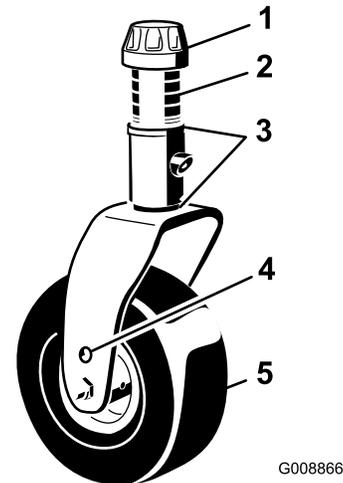
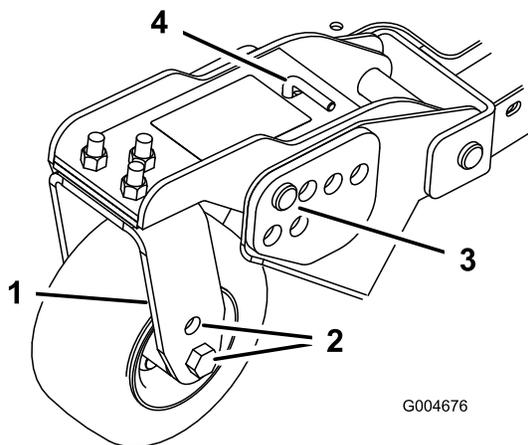
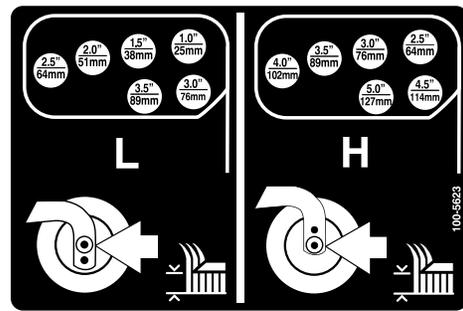

Figure 20
Figure 22
Figure 23
1. Position the caster-wheel axles in the same holes in all of the caster forks (Figure 20 and Figure 22).
2. Remove the tensioning cap from the spindle shaft and slide the spindle out of the caster arm (Figure 20).
- Remove the hairpin cotter and clevis pins from the caster-pivot arms (Figure 22).
- Rotate the tension rod to raise or lower the pivot arm until the holes are aligned with the selected height-of-cut bracket holes in the mower-deck frame (Figure 22 and Figure 23).